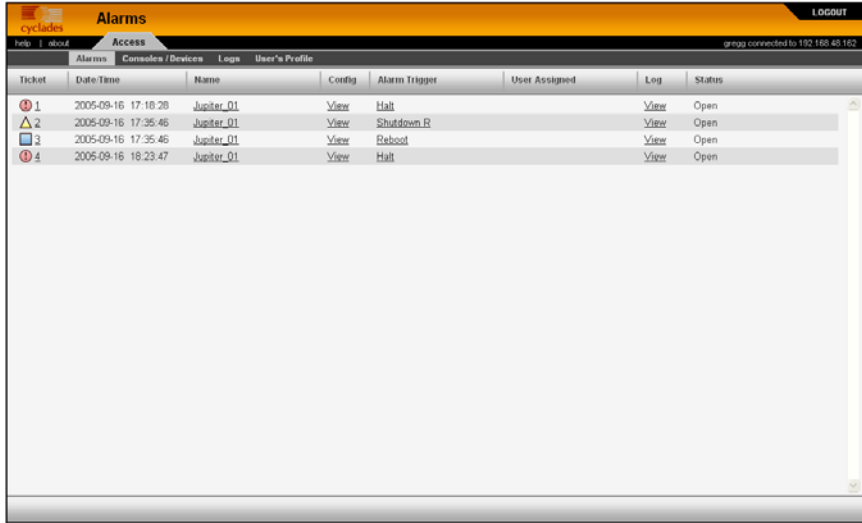

Figure 3-3: Alarms List Form
1. Click on the ticket number shown in Figure 3-3, “Alarms List Form.”